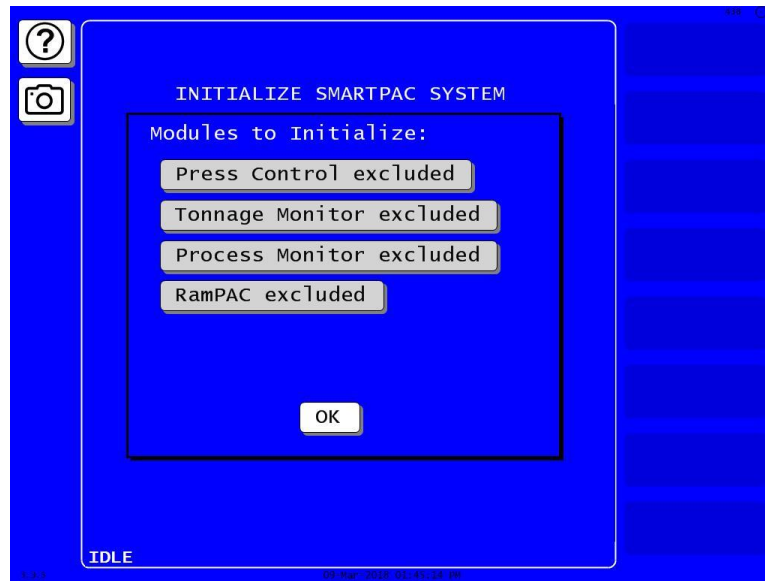

Figure 2-13. Modules to Initialize, Select Module
3. Press Reset Initialization Data. The Modules to Initialize box appears (Figure 2-13).